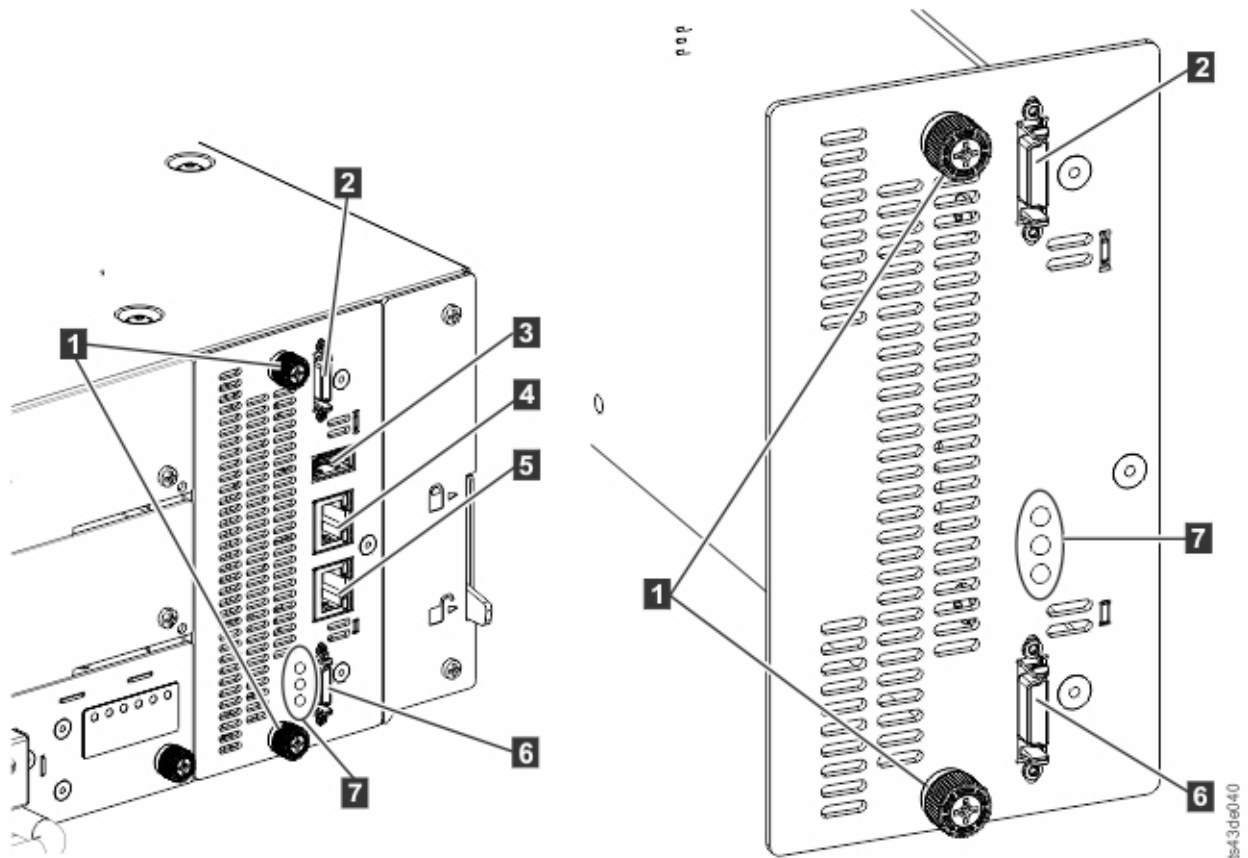

Figure 69. Controller card components
3. Remove the Ethernet cables (4) and (5) and the USB cable (3), if present. (An Expansion Module does not have Ethernet or USB ports. See Figure 69 on page 133).
4. Loosen the two blue captive thumbscrews (1) on the controller.
3. Tighten the blue captive thumbscrews (1) with your fingers to secure it to the module.
4. Replace the expansion interconnect cables (2) and (6), the Ethernet cable or cables (4) and (5), and the USB cable (3) that were removed previously. (An Expansion Module does not have Ethernet or USB ports. See Figure 69 on page 133).